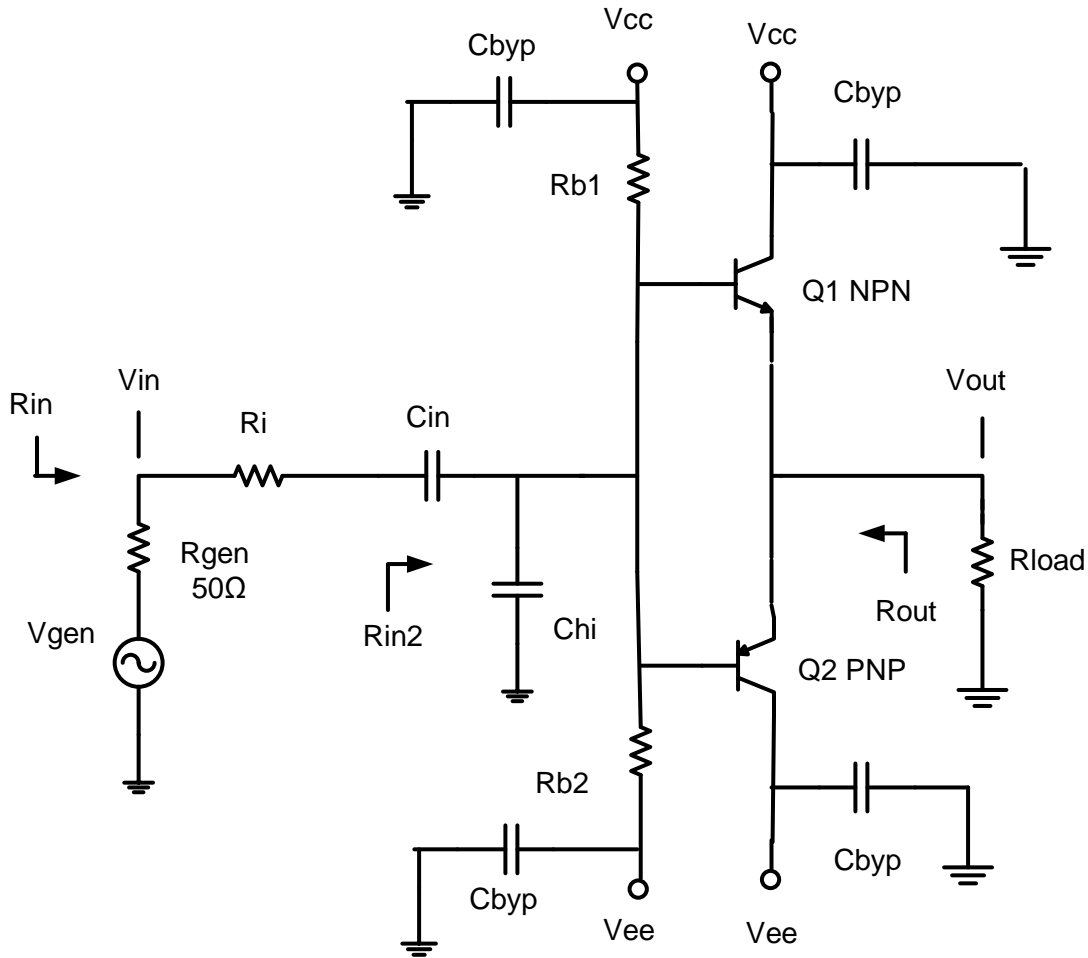

Figure 1. Class-B Power Amplifier.
This lab introduces two amplifier topologies: The Class-B amplifier, and the Class-AB amplifier. The Class-B amplifier consists of two transistors in a push-pull configuration. Figure 1 shows a common configuration using a 2N3904 transistor and a 2N3906 transistor. When the amplifier is in its quiescent state, no current flows in the collector of either transistor, meaning that the transistors are off. When the input signal either raises the base to approximately 0.7V or falls below - 0.7V from the quiescent point, then the upper or lower transistor turns on and begins to conduct. Since the transistors are in an emitter-follower configuration, the output voltage tracks the V_b base voltage less v_{be} .
You will design two amplifiers a Class-B power amplifier, and a Class-AB power amplifier circuits shown in Figures 1 and 2 respectively. You should refer to your class notes, textbook, instructor, and other reference material to help you design the circuits. Start with the DC design and then move onto the AC design you will need to find the peak output V_L , and I_L . Use the following fixed component values in your circuit:
6.1. Construct the Class-B amplifier shown in Figure 1. Remember that the 50Ω resistor is internal to the function generator and is not in your circuit. Record the values of the Q-point, the bias resistors and the capacitors you used in the circuit. **If your Class B has noise** on the output, bypass the collectors of the BJTs. If it still has, noise put a 220pF capacitor on the bases of each transistor to ground.